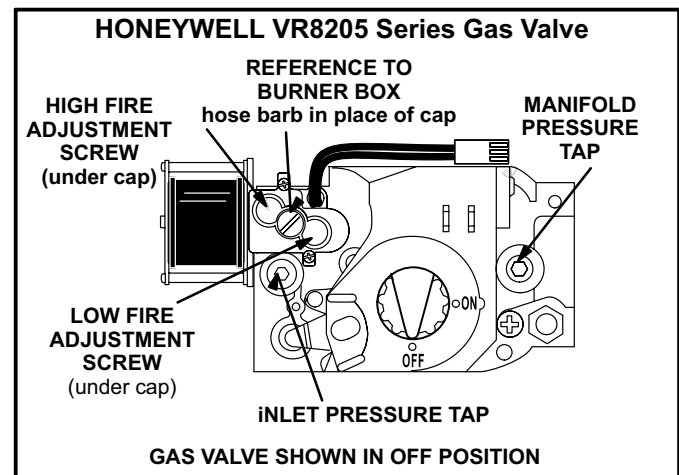

FIGURE 43
Gas Valve Operation (Figures 43 and 44)
- 6 - *Honeywell VR8205 Gas Valve* - Turn knob on gas valve clockwise ➡ to **OFF**. Do not force. See figure 43.
When testing supply gas pressure, connect test gauge to inlet pressure tap on the gas valve. See figures 43 and 44. Check gas line pressure with unit firing at maximum rate. Low pressure may result in erratic operation or under-fire. High pressure can result in permanent damage to gas valve or overfire. See table 36 for operating pressure at unit gas connection (line).